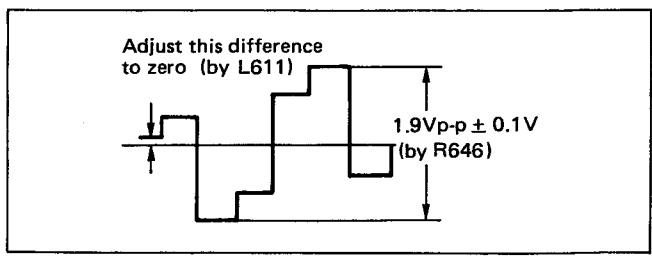

Fig. 38
- Adjust R646 and L611 to achieve waveform shown in Fig. 38.